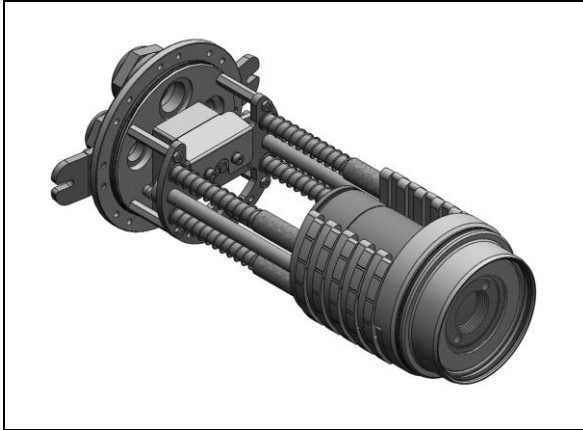

Figure 36: Front part with infrared thermometer
1. Screw the infrared thermometer in the thread (M48x1.5) of the front part (see **Figure 20**) and seat the front part in the chassis (**Figure 36**).